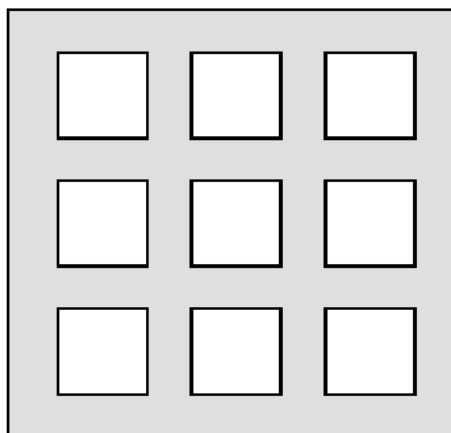

Figure 24 Solder paste application on exposed pad
3. For the PCB thermal pad, solder paste should be printed on the PCB by designing a stencil with an array of smaller openings that sum to 50% of the QFN exposed pad area. Solder paste should be applied through an array of squares (or circles) as shown in Figure 24.